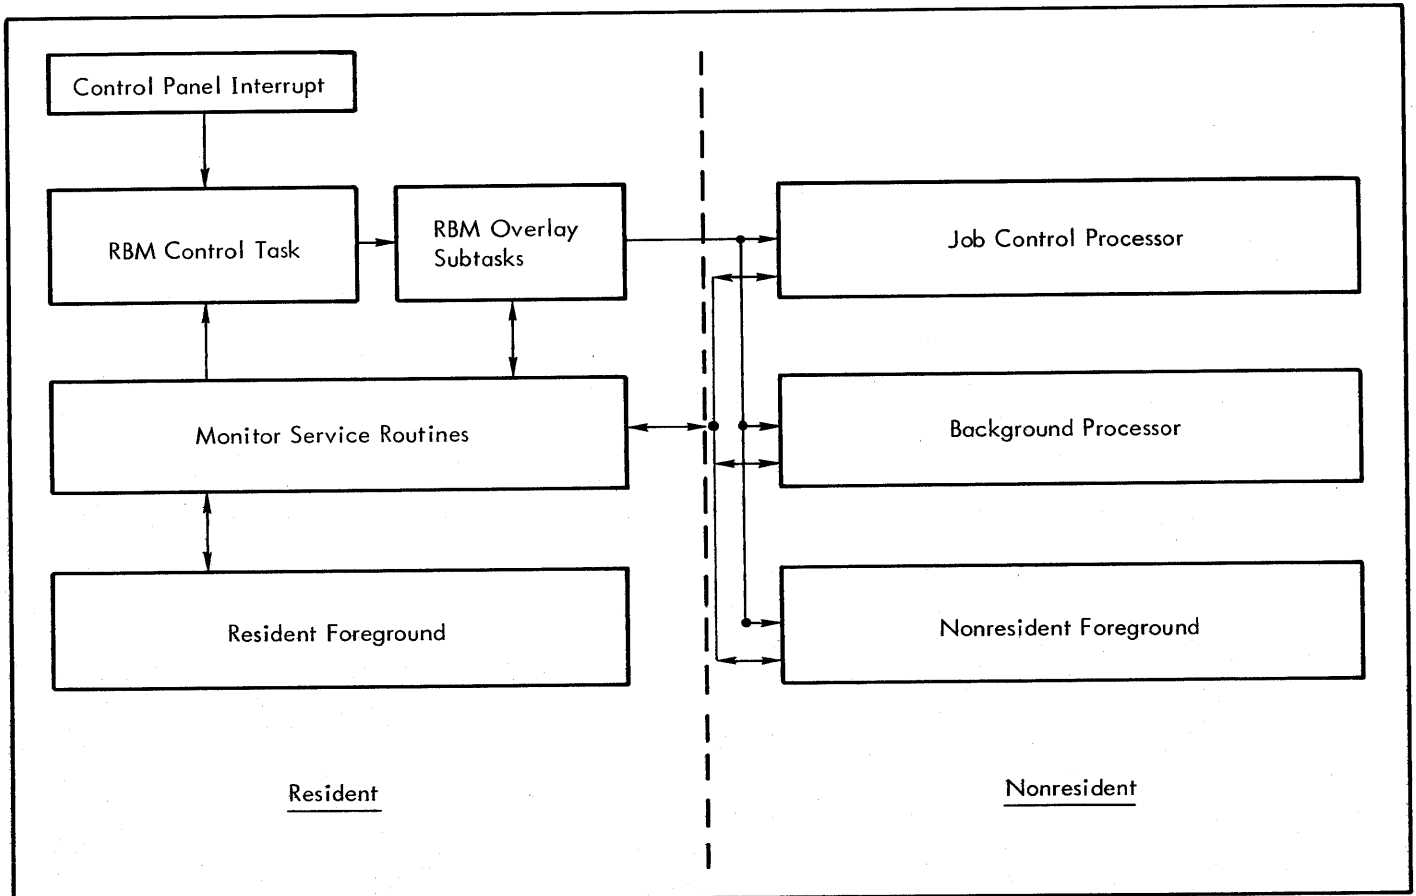

Figure 1. Operating System
- Partitioned core memory (see Figure 1) divided into